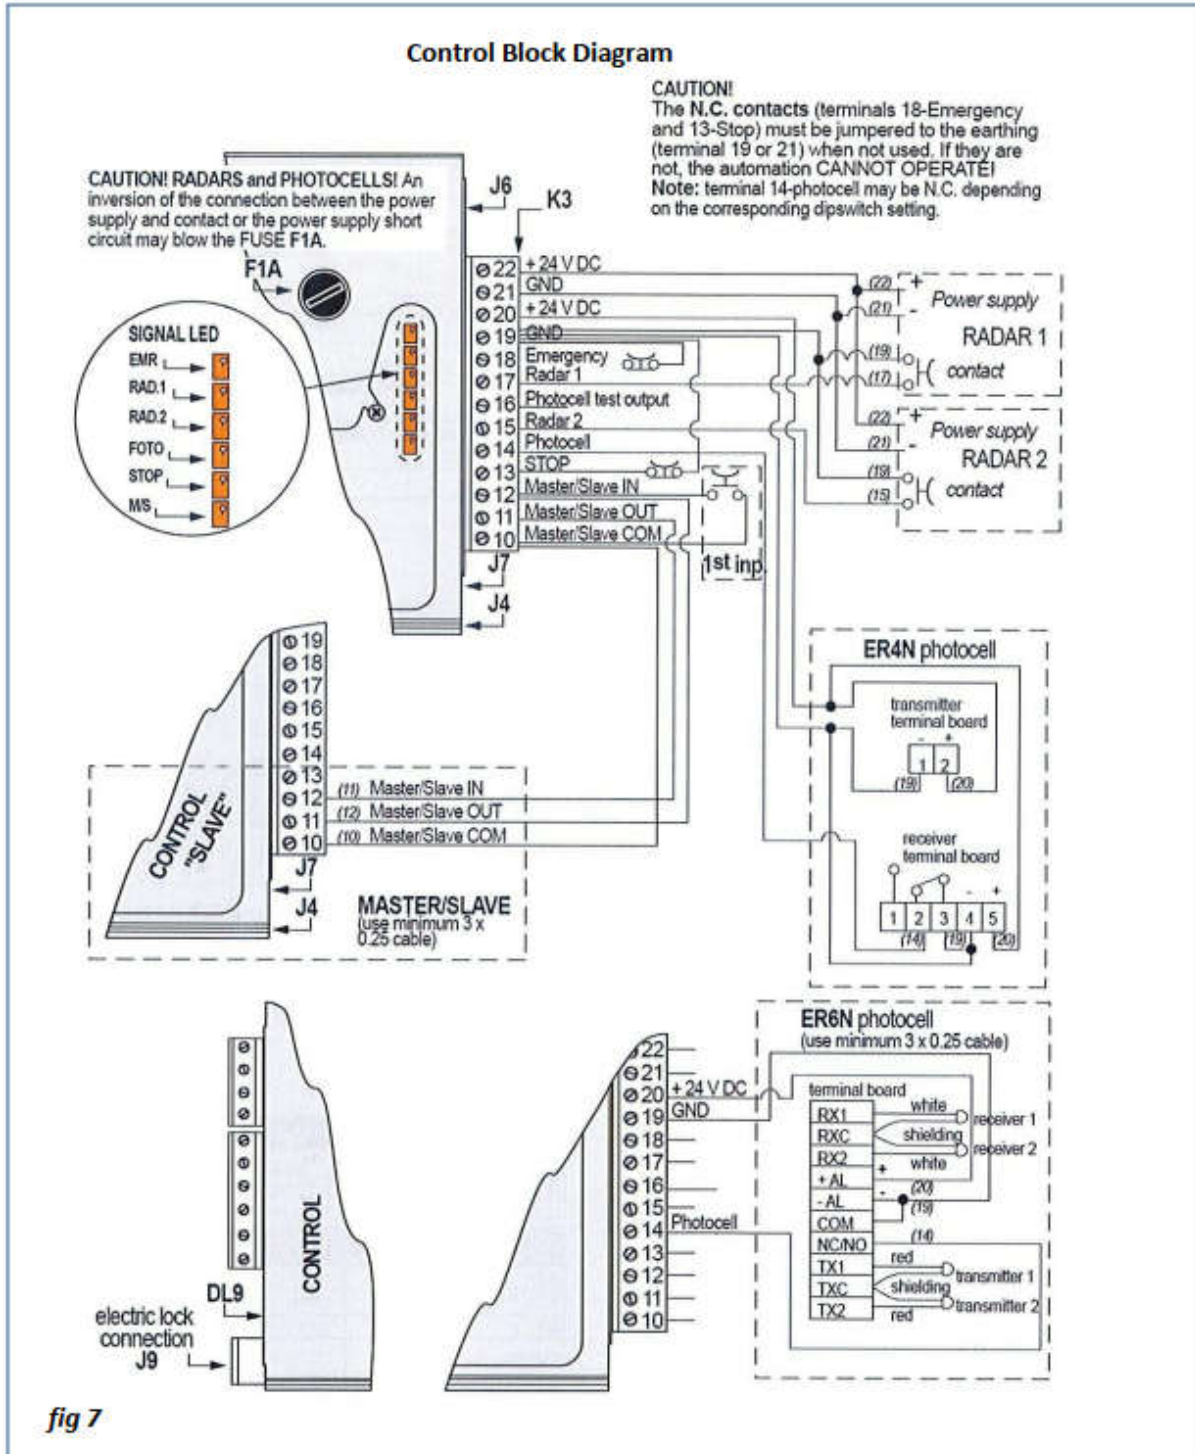

Figure 7.
The possible connections are illustrated in the diagram in Fig.7.
Connect an emergency pushbutton fitted with an N.C. type contact following the diagram in fig.7. Use a turn release maintained push-button.
Connect the STOP device fitted with N.C. type contact (SMI or SMS sensor or ER6/N photocell), following the diagram in fig.7 and the instructions provided with the device itself.
Connect the electric lock to the CONTROL card using the connector J9 (fig.7), following the instructions provided with the device.
Connect the SME/E or a similar pushbutton/device with N.O. contact following the diagram in fig.7 and the instructions provided with the device installed.
Connect the RADARS following the diagram in fig.7 and the instructions provided with the devices installed.
Connect the ER4N or ER6N type photocells following the diagram in fig.7 and the instructions provided with the devices installed.
**Note:** The ER6N photocells consist of transmitter, receiver and separate amplifier. The amplifier card, usually housed in the beam, must be connected to the unit as specified in fig.7.
Connect the two automation units in Interlock mode following the diagram in fig.7.
Accessory devices connected to terminal board K3 as per diagram Fig. 7